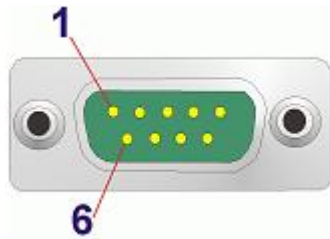

Figure 4-19: DB-9 Connector
- CN Location:** See **Figure 4-19**